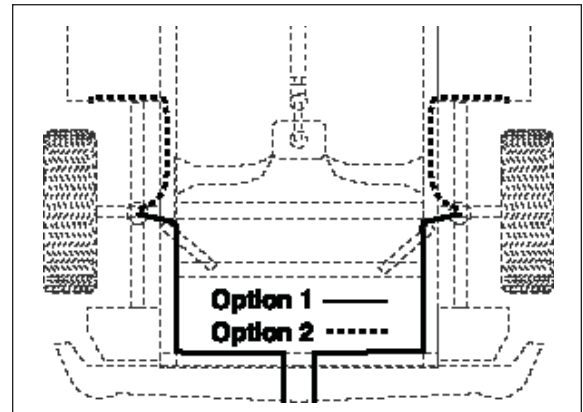

Figure 10
6. Route the air line along the frame to the air fitting on the air spring. Keep at least 6" of clearance between the air line and heat sources, such as the exhaust pipes, muffler, or catalytic converter. Avoid sharp bends and edges. Use the plastic tie straps (BB) to secure the air line to fixed, non-moving points along the chassis. Be sure that the tie straps are tight, but do not pinch the air line (Figure 10).